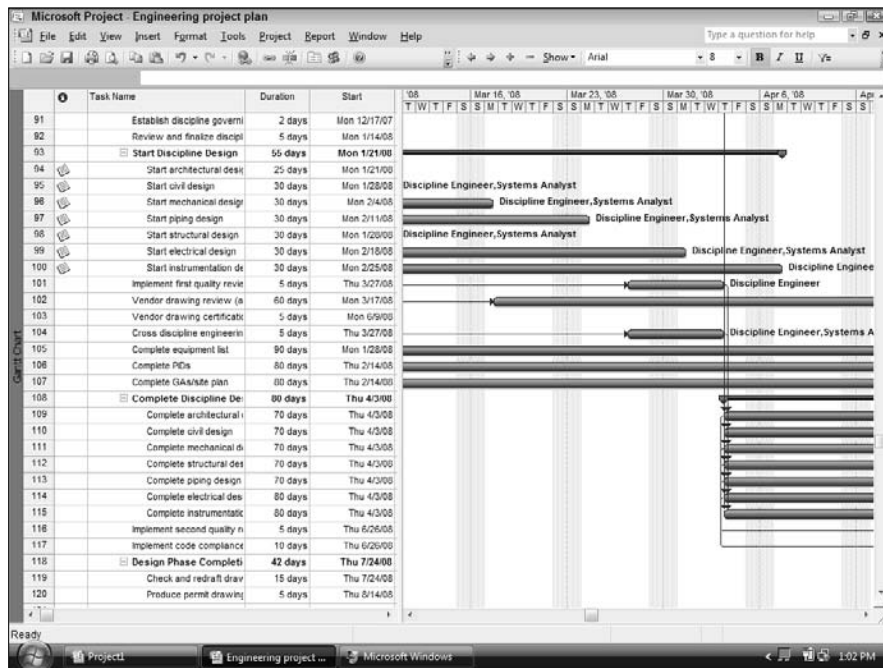

Figure 2-1:
- ◆ **Templates:** You can use built-in templates to get a head start on your project. Project *templates* are prebuilt plans for a typical business project, such as commercial construction, an engineering project, a new product rollout, software development, or an office move (see Figure 2-1 for an example). See Book II, Chapter 1 for more about using templates.